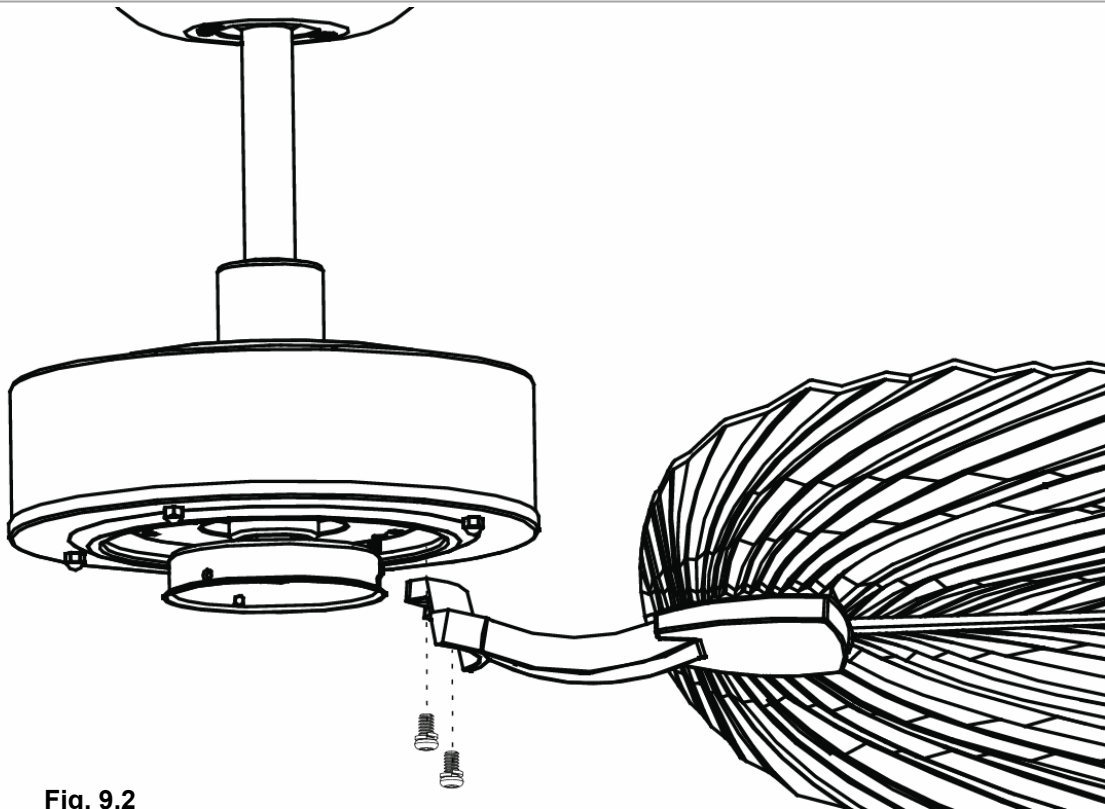

Fig. 9.2
2. Install the fan blade assembly to the fan assembly by the 2 screws and spring washer set. (Fig. 9.2)